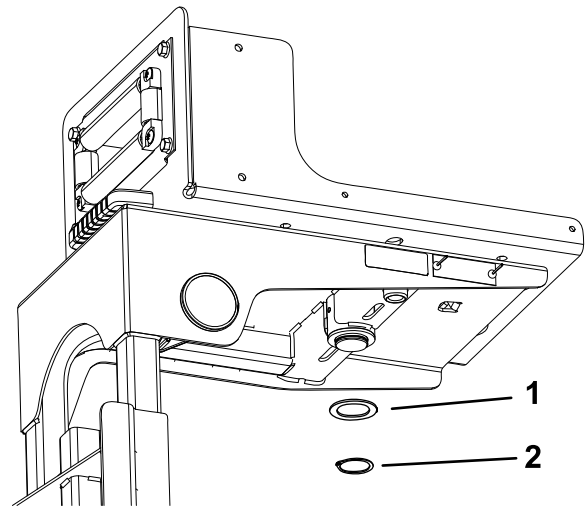

Figure 20
2. On the underside of the hose-reel frame, attach the thrust washer and snap ring to the post on the swivel plate (Figure 20).